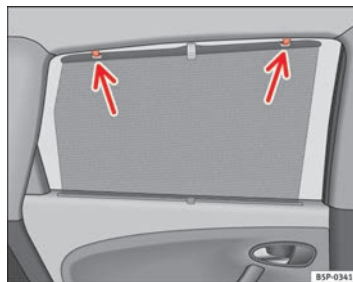

Fig. 84 Rear door sun visor
- Pull out the visor and hook it onto the hooks at the top of the door frame ⇒ Fig. 84.